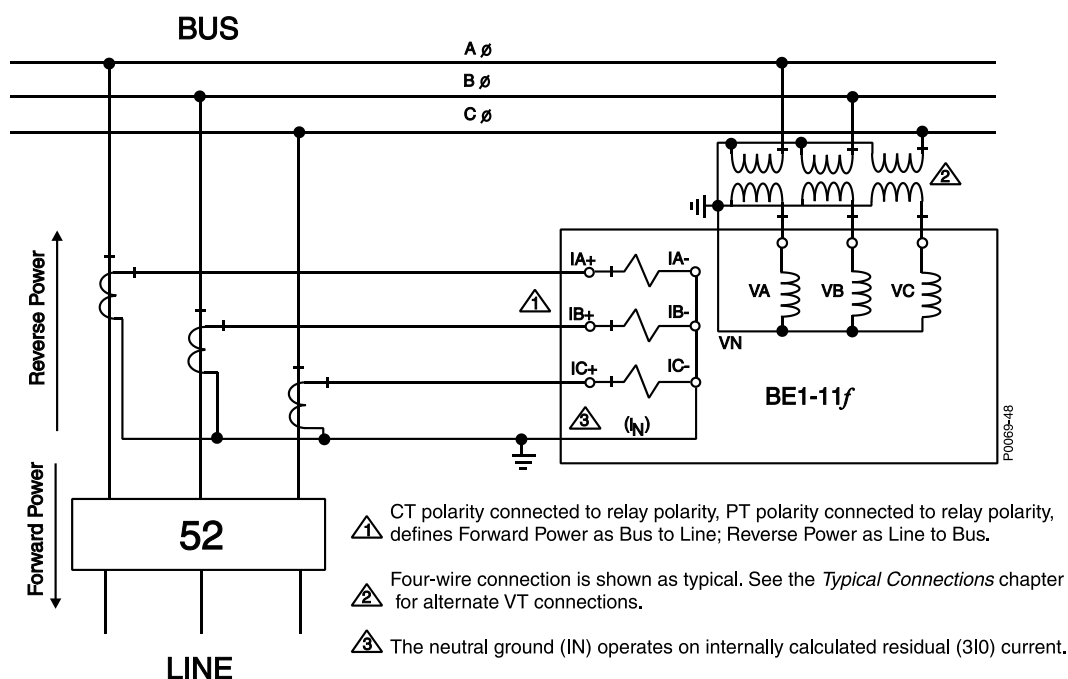
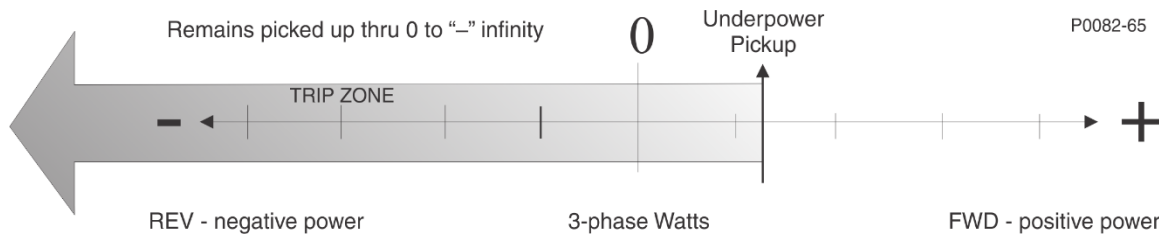

Figure 18-1. Direction of Power Flow Defined by the Polarity of Voltage and Current Connections
Figure 18-2. Forward and Reverse Pickup Values
In addition to exceeding the power pickup threshold, direction of power flow (forward or reverse) must match the directional setting for the 32 element to operate. In the BE1-11f, the forward and reverse directions are defined by the polarity voltage and current connections to the BE1-11f as shown in Figure 18-1. Based on IEEE polarity convention, forward power is defined as bus to line and reverse power is defined as line to bus.
Three-phase power pickup settings for the power elements are always positive regardless of the directional setting. However, it is useful in understanding the element response to visualize the forward direction as positive power and the reverse direction as negative power. If we think in terms of a forward and reverse scale with zero (0) in the middle as shown in Figure 18-2, positive and negative power flows relative to the forward and reverse directional setting. For example, assume an intertie application where the Area EPS (electric utility) requires the Local EPS (source of non-utility generation) to separate from the Area EPS (trip the intertie breaker) if any power flows towards the Area EPS. For illustrative purposes, assume that the BUS in Figure 18-1 is the Local EPS, 52 is the intertie breaker, and LINE is the Area EPS. Normal power flow is from the Area EPS to the Local EPS, which happens to be an industrial facility with local generation used for peak shaving.
Assuming polarity current and voltage connections as shown in Figure 18-1, forward power is defined as flowing into the Area EPS and reverse power is defined as flowing into the Local EPS. For this application, the 32 element should be set to trip for minimum underpower in the reverse direction (to the Local EPS). Therefore, the settings would be Reverse, Under, and 1 watt. To increase sensitivity, mode selection should be 3 of 3 which requires each phase power to fall below $\frac{1}{3}$ of the three-phase power setting or 0.33 watts. Assume that normal power absorbed by the load is 4 kW in the reverse or negative direction on our scale. If load is suddenly lost at the industrial plant while the peak shaving generation is running, power may flow towards the Area EPS depending on the load to generation ratio. What was a negative 4 kW passes through 0 watts on its way to some positive power level. However, in doing so, passes through the negative underpower trip threshold of Reverse, Under, 0.33 watts/phase, resulting in a 32 trip and opening of the intertie circuit breaker. From negative 0.33 to positive infinity, the 32 element remains in a picked up condition as shown in Figure 18-2. A trip time delay should be included to ensure that the 32 element does not operate for a transient power condition.